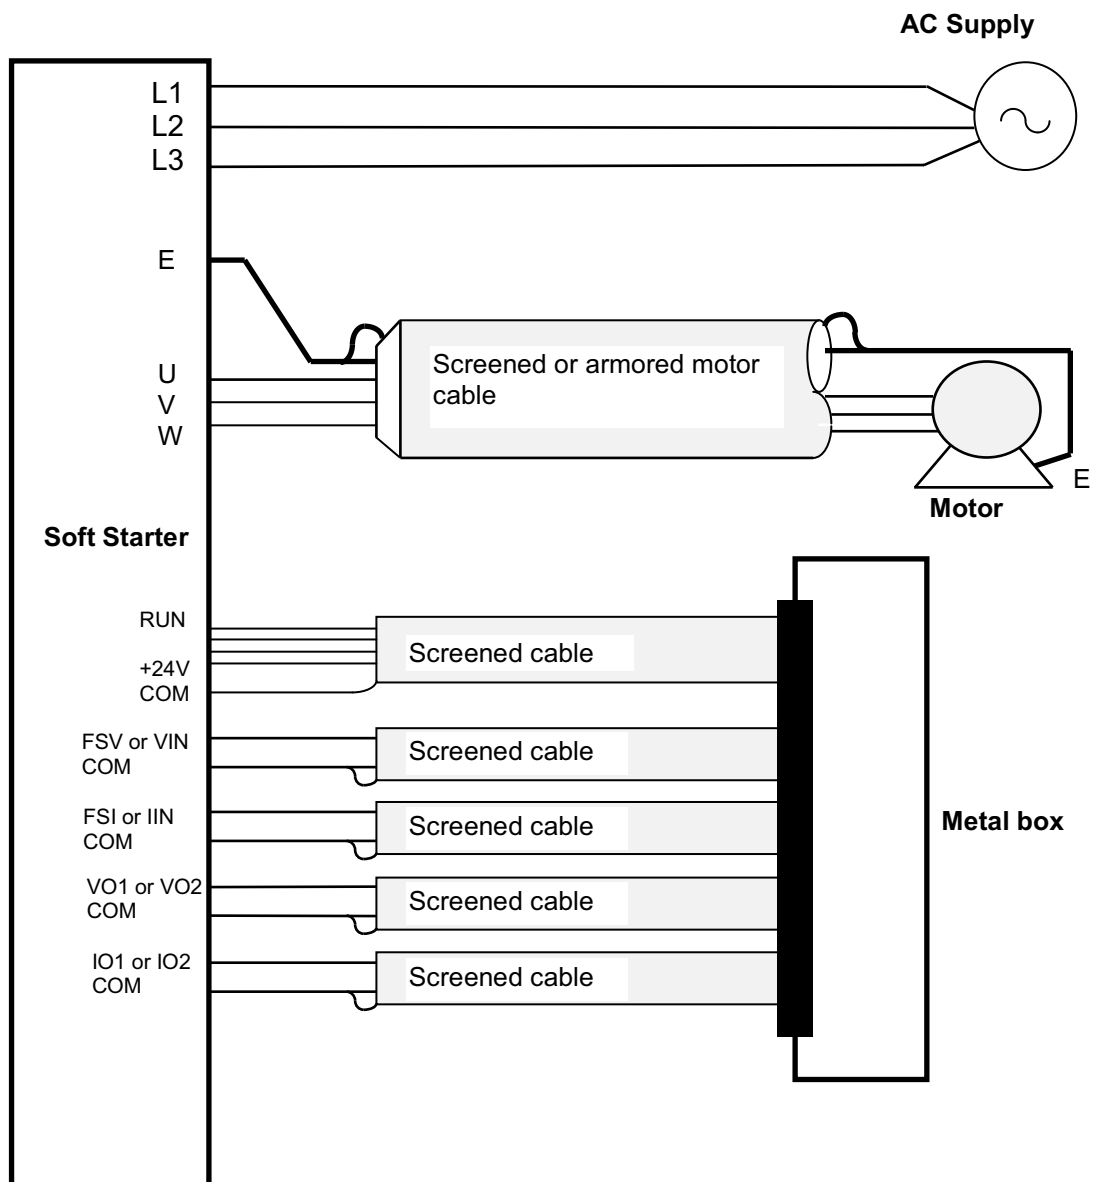

Fig. 13-3-1 Installation (Stand-alone)
This Instruction details how to meet the EMC directives (89/336/EEC) with Opti-Torque and it is important to understand before installation and operation of soft starter. The soft starter is designed to meet the EMC directives and is suitable for use in the Industrial Environments. These soft starters have been tested with the power cables and control leads connected as shown in fig. 13-3-1. If these soft starters are connected with fewer control leads than those specified in fig 13-3-1, it may be possible to reduce installation costs by using ordinary cables rather than screened cables which are recommend in this manual. It is strongly advised however that a compliance test should be performed under the actual operating conditions to certify that the system complies with the relevant EMC requirements. If the soft starters are used with any of the optional cards, in such cases suitable extra measures must be provided and must certify through a test that the product, system or installation complies with the relevant EMC requirements.
- ✓ The output cable from the soft starter must be screened or armored and the screen or armor must be connected to the earth as shown in fig. 13-3-1.
- ✓ Use a 0.13mm² (AWG 26) to 0.8mm² (AWG 18) wire for wiring to the control circuit and should be screened if they are used for a speed setting circuitry, analogue signal circuitry for metering, or relay signal circuitry. The screen should be connected to the earth terminal of soft starter or COM terminal only (refer to Fig. 13-3-1).